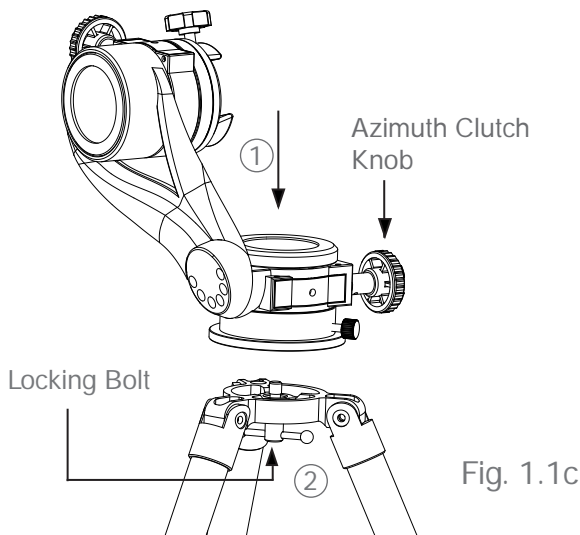

Fig. 1.1c
3. Align the 3/8" socket at the base of the mount with the bolt on the tripod head. Lock the mount on the tripod by tightening the bolt (Fig. 1.1c).